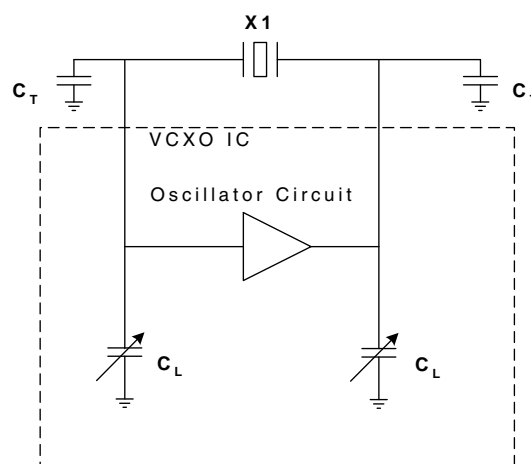

Figure 1 - VCXO Circuit
3. Load capacitance. This is the capacitance, specified in picofarads (pF), which the oscillator circuit presents to the crystal for the crystal to resonate on frequency. Load Capacitance is comprised of a combination of the circuits' discrete load capacitance, stray board capacitance, and capacitance internal to the device. Because this includes the stray capacitance of the circuit board, we recommend that pads for small capacitors (CT in figure 1) be provided in your layout to make small adjustments to the total capacitance. Details are given in the Layout Considerations section.